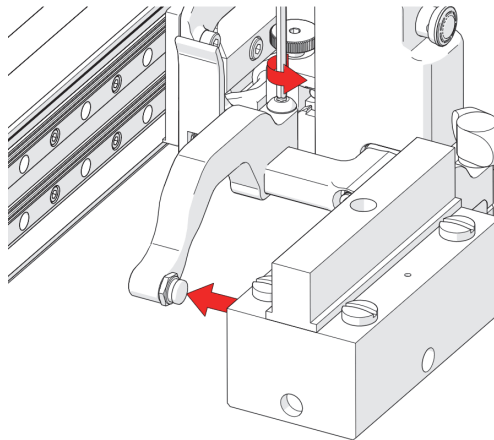

Figure 2-78 Adjust inner arm
3. Loosen the arm clamp screw (see Figure 2-78 on page 108).
4. Place the wedge on the pivot button of the inner probe holder arm (see Figure 2-78 on page 108).